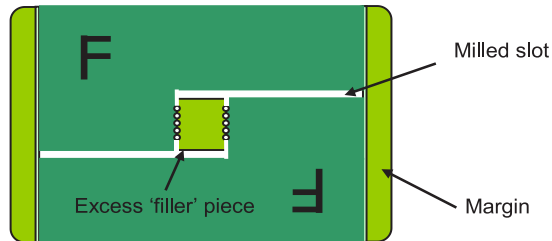

Figure 41: Two irregular boards with the excess connected via stamp holes.
- For larger pieces of excess material, the panel may be designed such that the excess pieces can be broken off using stamp hole connections. See figure 41.